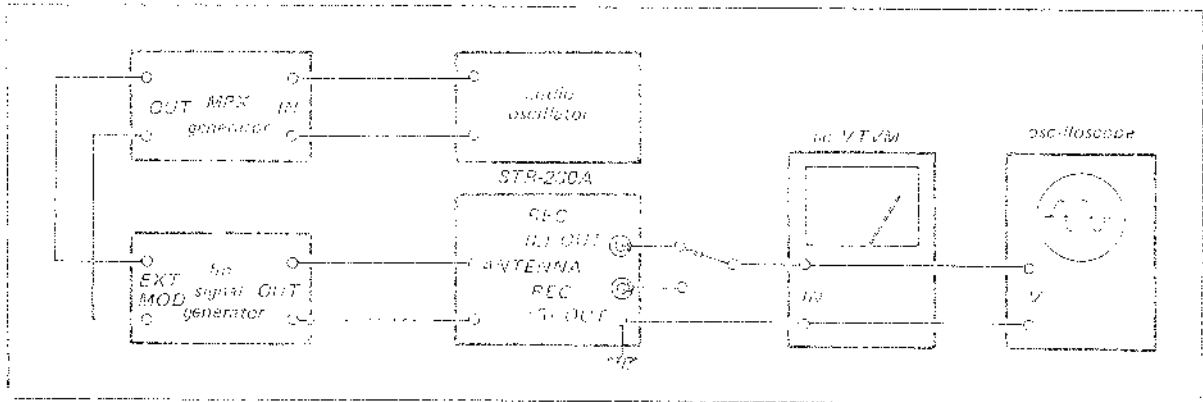

Fig. 3-10. *Fm stereo separation adjustment test setup*
1. Connect the equipment as shown in Fig. 3-10. Set the fm signal-generator's control as follows:
- (a) With the equipment connected as shown in Fig. 3-10 set the MPX stereo generator controls as follows.